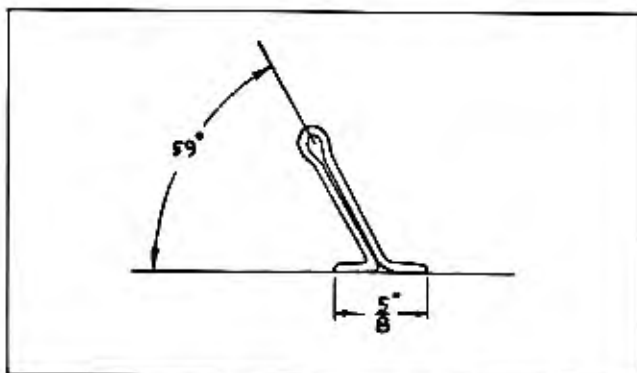

Fig. 6-34 Tool for Removing Upper Half of Main Bearing
4. Make a tool for removing upper half of bearing shell as shown in Fig. 6-34.